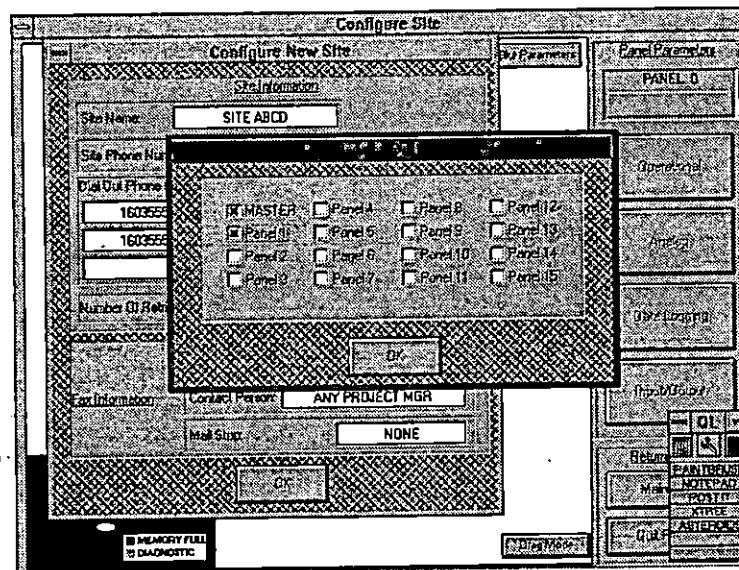

FIGURE 4-5. PANELS ON LINE Dialog Box. Use this dialog box to indicate how many panels are networked at the site.
FIGURE 4-3. CONFIGURE SITE Screen. 1) **Site Parameters button** - used to access the Configure New Site dialog box (Figure 4-4, p. 4-7); 2) **Panel Parameters sidebar** - contains buttons for accessing panel configuration dialog boxes; 3) **Panel icons** - represent actual panels on site and are user generated from Panels On Site dialog box (Figure 4-5, p. 4-8); 4) **Pump Function Key** - provides color codes for panel function (used when accessing site for monitoring (Chapter 5)); 5) **Select/Move button** - used to select a panel for configuration (Select Mode) or to move a panel icon (Drag Mode); 6) **Modify screen graphics** - double click on any part of screen to access Windows graphics package. See Appendix B.
FIGURE 4-4. CONFIGURE NEW SITE Dialog Box. 1) Site Name field - delete the existing dummy name and enter a new name (in this case "site ABCD") for the site; 2) Site Phone Number field - enter phone number for site; 3) Dial Out Phone Number fields - enter numbers you wish site to call during alarms; 4) Number Of Retries selection - click on number of times you wish site to try each dial out number; 5) Fax Information field - all three fields must be filled out; 6) Select Panel Addresses button - click on button to access **Panels On Line** dialog box (Figure 4-5, p. 4-8).
6. Click on the **SELECT PANEL ADDRESSES** button to display the **Panels On Line** dialog box (Figure 4-5, p. 4-8).